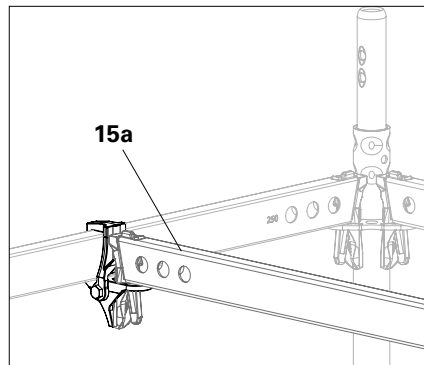

Fig. A11.07c
- Ledger to ledger coupler is installed. (Fig. A11.07c)